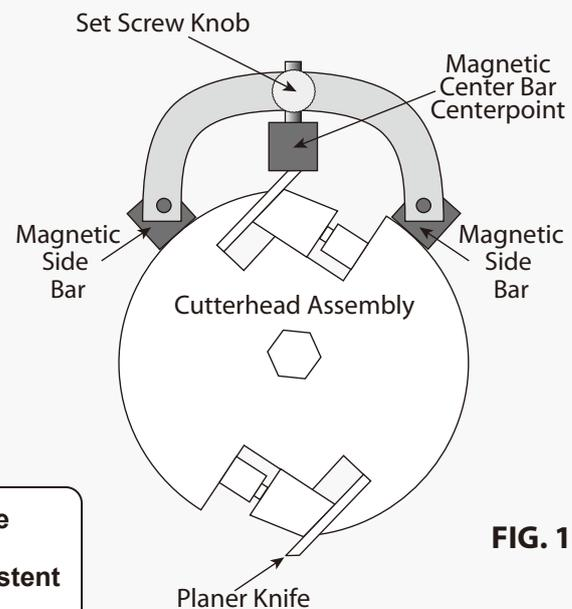

FIG. 1
*Note: Be sure the center bar touches the knife edge and the side bars contact the cutterhead securely as shown in FIG. 1.*
It is always a good idea to double check yourself by looking from the side to insure that the center bar is contacting the knife in the proper location as shown in FIG. 1. Doing this each time you set a knife will give you the necessary consistency.